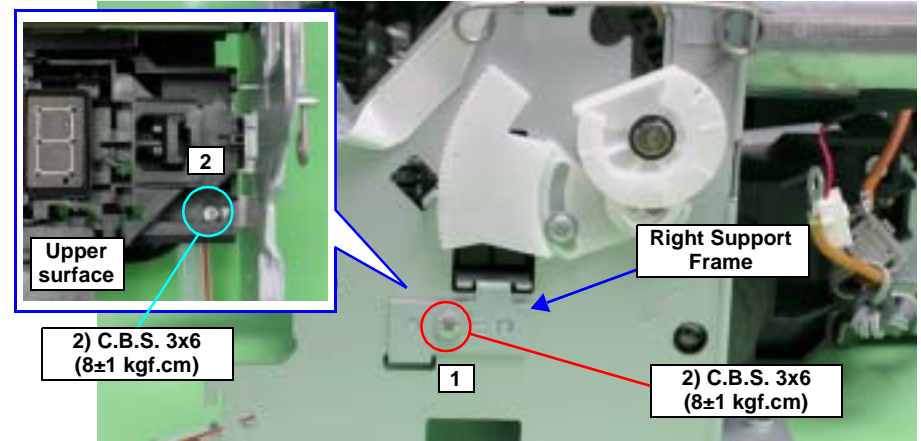

Figure 4-99. Removing the Right Support Frame
- Tighten the screws in the order shown in Figure 4-99.